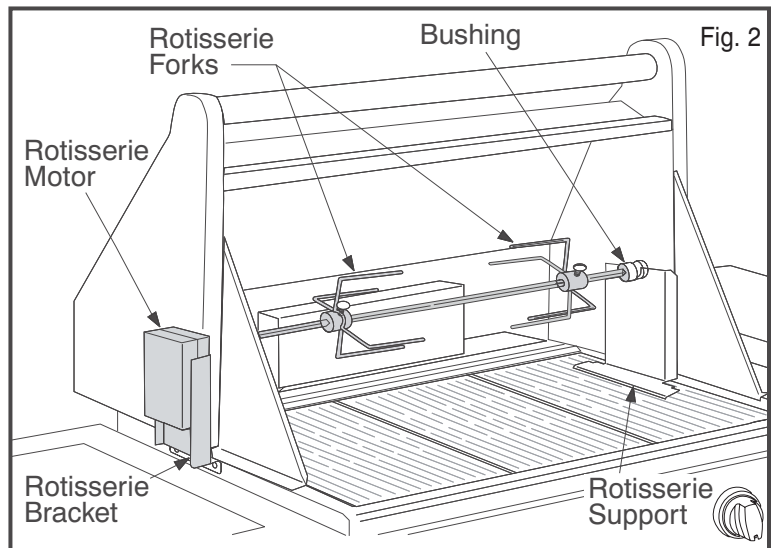

Fig. 2
3. Insert the ends of the Rotisserie Support into the slots of the right cooking grate, so that the right edge of the support is approximately 1 inch [2.5cm] from the right casting (10 inches [25cm] on 6-burner models), and the top groove of the support is in line with the rotisserie spit hole in the left casting. (see Fig. 2)